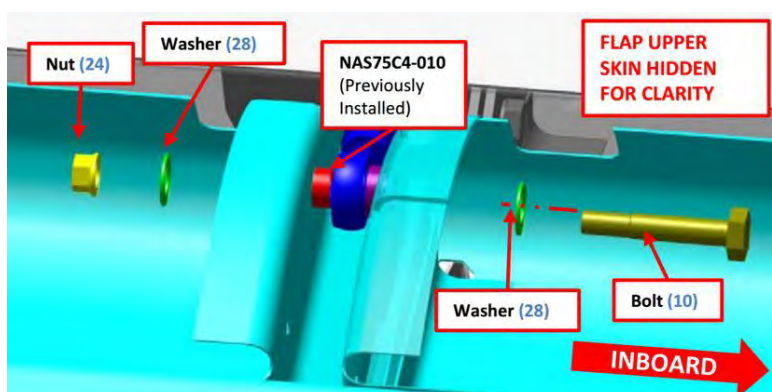

FIGURE 18-5
4. Install the AN4C13A bolt, MS21043-4 nut and two NAS1149C0432R washers that attach the flap pushrod to the flap surface of the affected flap (see Figure 18-5).